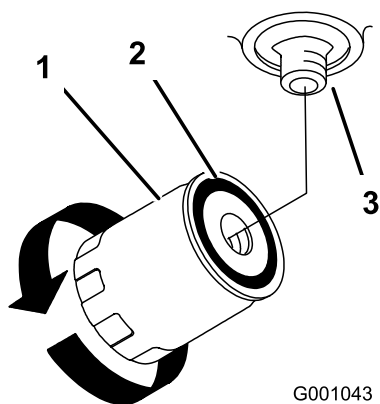

Figure 48
9. When the hydraulic filter is full, turn the oil filter clockwise until the rubber gasket contacts the filter adapter, then tighten the filter an additional 1/2 turn (Figure 48).